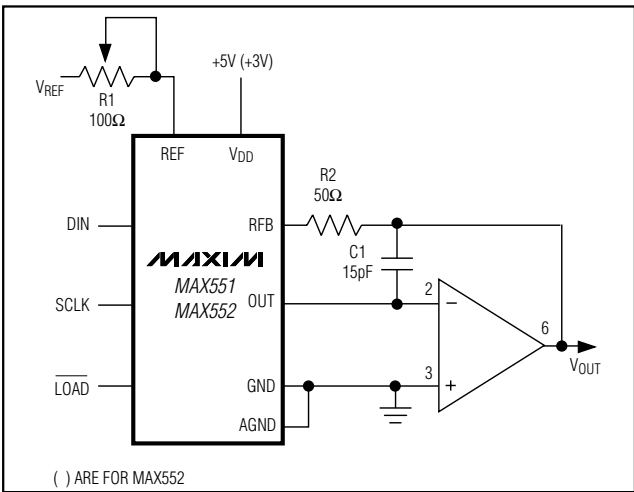

Figure 3. Unipolar Operation
The output current ( $I_{OUT}$ ) can be converted into a voltage by adding an external output amplifier (Figure 3). The REF input accepts a wide range of signals, including fixed and time-varying voltage or current inputs. If a current source is used at the reference input, use a low-tempco, external feedback resistor in place of the
**Table 1. Unipolar Binary-Code Table for Circuit of Figure 3**
Figure 3 shows the MAX551/MAX552's basic application. This circuit is used for unipolar operation or 2-quadrant multiplication. The code table for this mode is given in Table 1. Note that the output's polarity is the opposite of the reference voltage polarity.
In many applications the gain accuracy is sufficient and gain adjustment is not necessary. In these cases, resistors R1 and R2 in Figure 3 can be omitted. If the gain is trimmed and the DAC is operated over a wide temperature range, use low-tempco ( $<300\text{ppm}/^{\circ}\text{C}$ ) resistors for R1 and R2. Capacitor C1 provides phase compensation and reduces overshoot and ringing when fast amplifiers are used at the DAC's output.